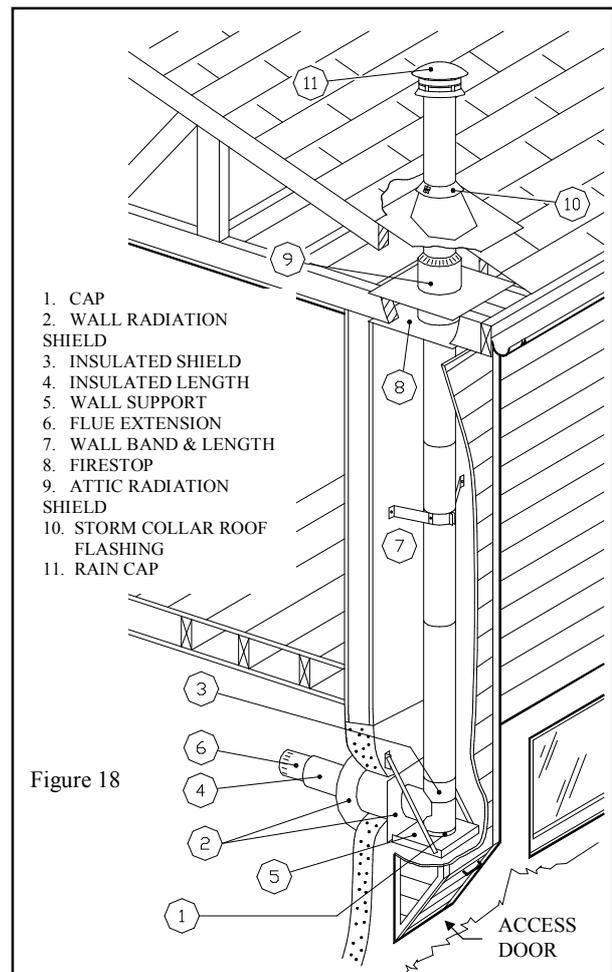

Figure 18
3. **The adjustable support (AWS) may only be installed in conjunction with an insulated twist-lock tee cap (IC).**
8. If an exterior installation is to be enclosed (see Fig. 18), allow for access to base of tee to facilitate required cleaning.